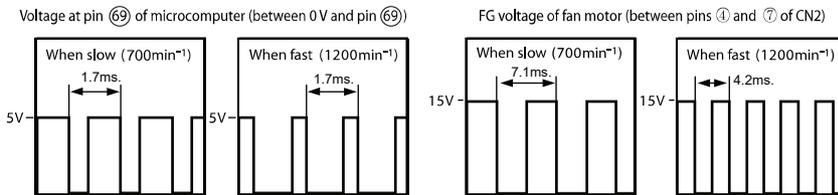

Fig. 3-2
- The VS receives a command voltage from the microcomputer. The VS terminal undergoes an analog voltage that matches the Lo level time ratio of the pulse signal from pin ⑥⑨ of the microcomputer. (See Fig. 3-2.)